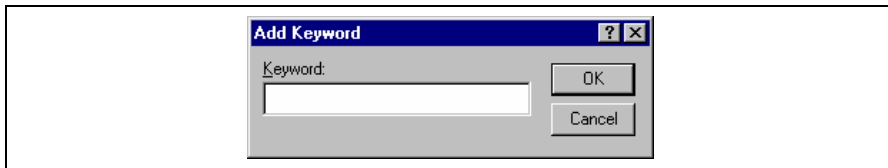

Figure 4.13: Add Keyword Dialog
4. Click the “Add...” button to add a keyword. Then the “Add Keyword” dialog (figure 4.13) will be launched. Specify a keyword in the “Keyword” field and click “OK” to close the dialog. To remove a keyword, select the keyword and click the “Remove” button.